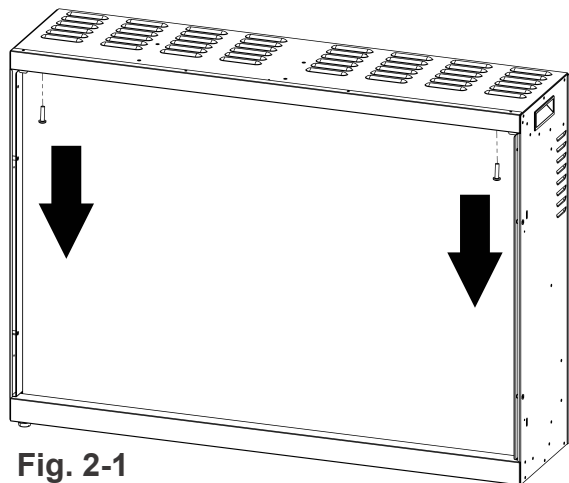

Fig. 2-1
- A. With one hand on the front glass to prevent it from falling, remove the screws from the top of the glass. Set the screws aside. (Fig. 2-1)